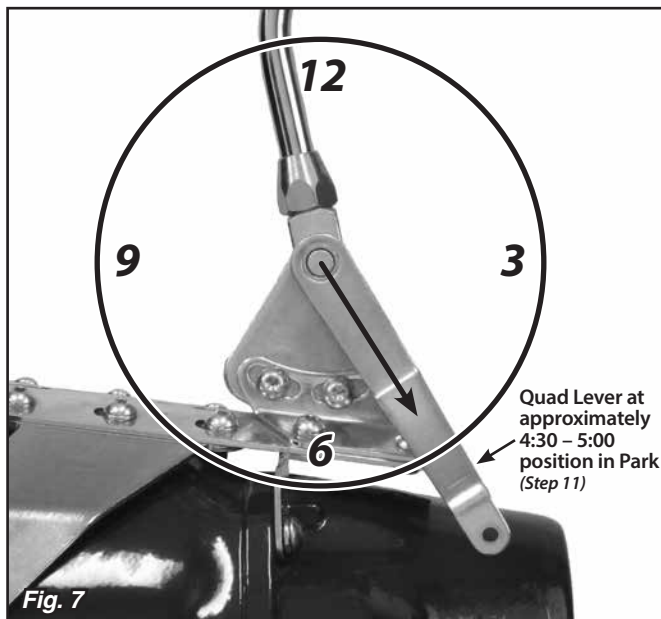

Fig. 7
**Step 11:** Put the shifter lever into the Park position and check the position of the quad lever. It will need to be pointing to about the 4:30 – 5:00 position. If it is not, loosen the set screw in the top of the quad lever with a 1/8" Allen wrench and slide the quad lever off of the shaft. Reposition it on the shaft at approximately the 4:30 – 5:00 position, and retighten the set screw. **Fig. 7**